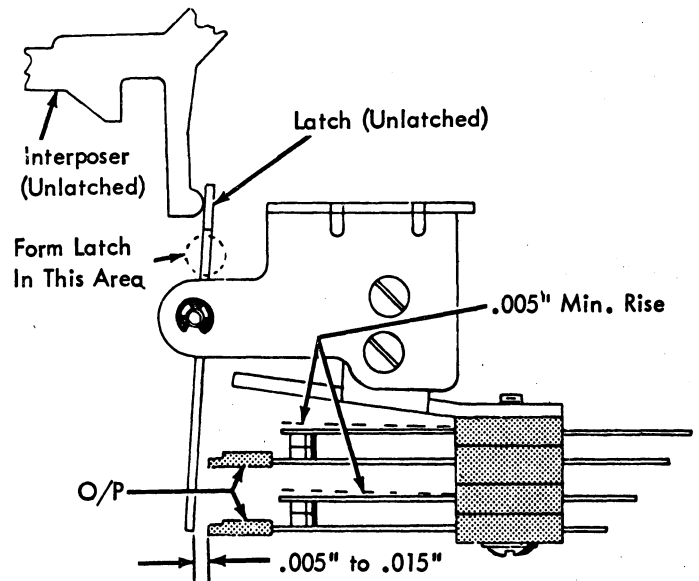

FIGURE 177. Assembly Position (With Latch Stop)
- 1a. Assembly (with latch stop) Position (Fig. 177) - With the operational interposer released, position the unit (front to rear) so that the latches clear the O/P stops by $.005''$ to $.015''$.